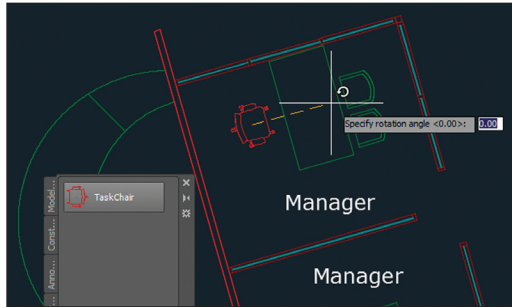

FIGURE 9.18 Inserting a chair from the tool palette
6. Click the TaskChair tool on the Furniture tool palette. Click the place where the Manager's chair used to be and then specify the rotation by clicking a second time. Click OK or Cancel to close the Edit Attributes dialog box that appears. Figure 9.18 shows the result.